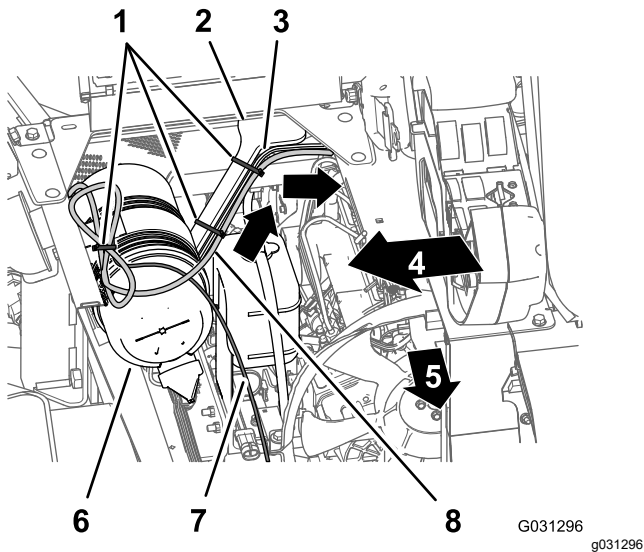

Figure 145
1. Route the 270.5 cm (106-1/2 inch) power branch of the navigation-data and electrical harness across the seat-box angle and down along the left support for the engine shroud (Figure 145).
2. Secure the harness to the engine-shroud support with cable ties (Figure 145).